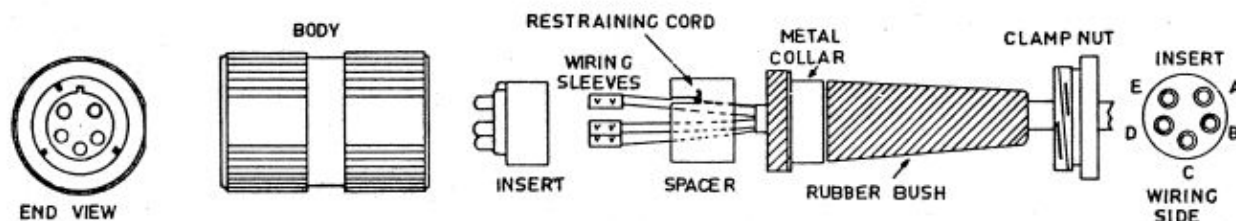

FIG 1 - FIVE PIN PLUG
30. The handset is of the standard pattern except for the microphone insert and the cable plug. The microphone insert is a dynamic type and may be replaced in a similar manner to the standard type. The 5-pin cable plug consists of a hollow metal body with a moulded plastic insert carrying the contact pins. The insert is held between a shoulder in the body and the rear clamping nut by a plastic spacer. Three steel locating pins inside the body engage in slots on the corresponding socket on the RT unit, the pins being offset to prevent misalignment. The wiring may be inspected or renewed by unscrewing the cable clamp nut at the rear, pushing the insert back from the front end and then withdrawing the cable and insert. The wire ends are crimped into small brass sleeves which are a press fit in the hollow rear ends of the pins in the insert (Fig 1). A restraining cord in the cable is knotted and fitted into a slot in the plastic spacer.